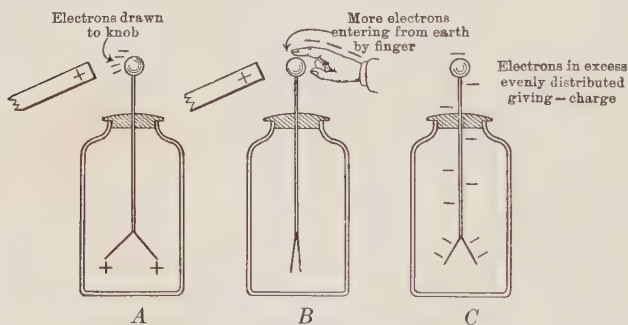

FIGURE 422. — CHARGING AN ELECTROSCOPE.
1. Bring a positively charged glass rod near, *but not touching*, the knob. The leaves diverge (Figure 422, A).
2. Holding the glass rod in place, touch the knob with the finger. The leaves collapse (Figure 422, B).
3. Withdraw first the finger, then the glass rod. The leaves diverge with a *negative* charge (Figure 422, C).
electrons ( $-$ ), which are always present in a conductor, are attracted upward by the  $+$  glass (Figure 422, A). This causes some of the atoms in the leaves to be *short of electrons*, that is, to be *positively charged*. Touching the knob with the finger permits electrons from the earth, which is to be regarded as a reservoir of electricity, to flow through the conducting path formed by the body (Figure 422, B) and supply the deficiency in the leaves. This causes the leaves to fall together, because the atoms are made neutral, that is, uncharged. The electrons in the knob do not move, because they are held *bound* by the attraction of the  $+$  glass rod. When the finger and the  $+$  glass rod are removed, there is
now an excess of electrons in the metallic parts of the electroscope and the leaves diverge because of the negative charge that each contains (Figure 422, *C*). The student should work out a similar explanation, with an opposite direction of motion of the electrons, for the process of charging the electroscope positively.